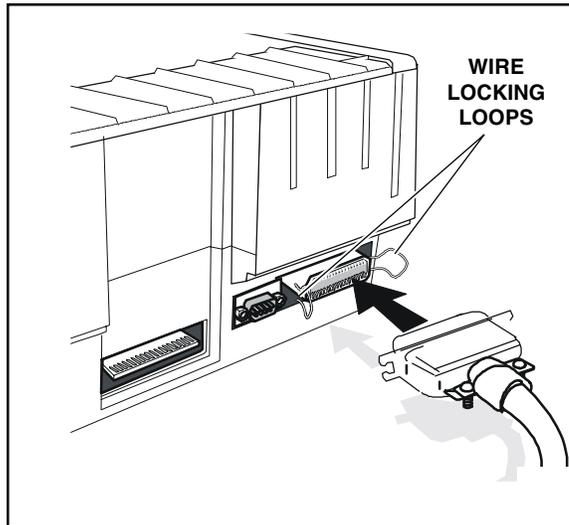
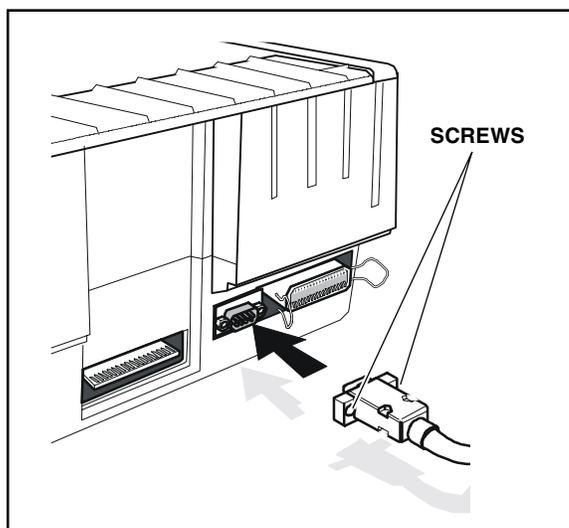

Figure 2-18. Connecting the Parallel Cable
Figure 2-19. Connecting the Serial Cable
2. If you are going to use the parallel interface, plug a parallel cable into the parallel receptacle (see figure 2-18) and lock it into place with the wire locking loops. If you are going to use the serial interface, plug a serial cable into the serial receptacle (see figure 2-19) and use a small slotted screwdriver to tighten the screws that secure the cable to the printer.